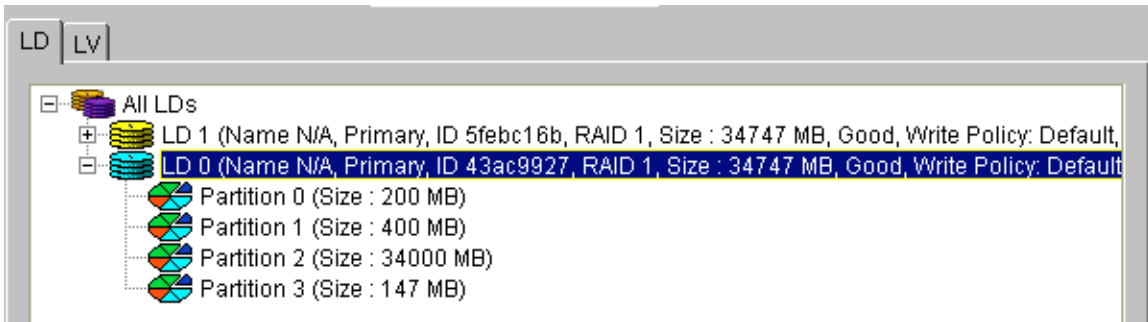

Figure 9-14: LD partitions
Step 6. To display the partitions of the drive you wish to map, click on the corresponding icon in the create LUN mapping window. (See *Figure 9-14*). Each drive and volume can have up to 8 partitions, each of which can be mapped to a host LUN.